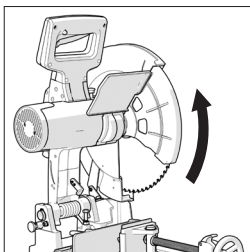

Fig. 5
- Retract the lower blade guard up into the upper blade guard by rotating it by hand. **(Fig. 5)**